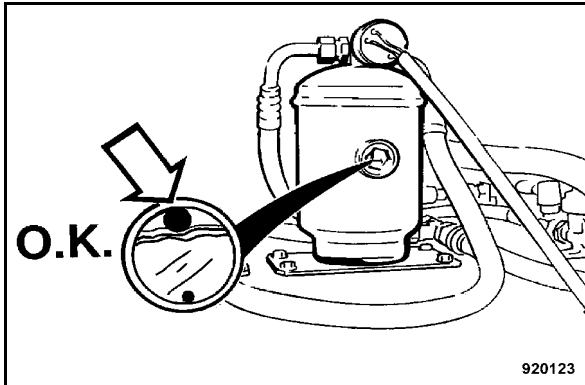

Fig. 147
- Check whether the white float (Fig. 147) inside the inspection glass of the drier/collector unit floats right at the top.